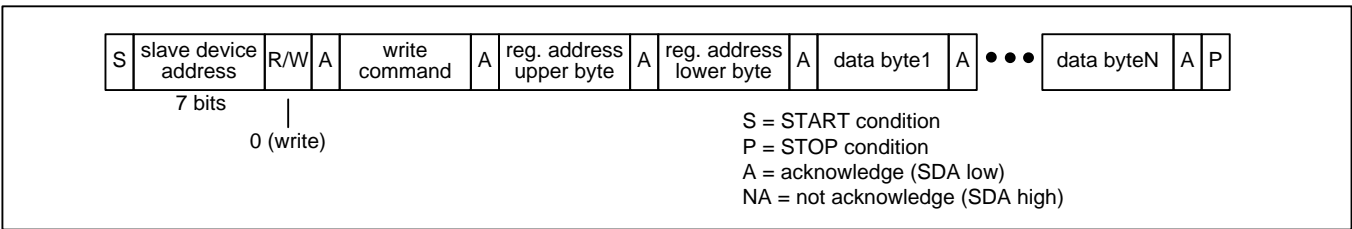

Figure 11 – I²C Register Write Transaction Functional Timing
Register Write Transactions. The device registers are accessible when **EESEL=0**. The bus master does an I²C write to the device. The first three bytes of this transaction are the SPI Write command (see Table 3), the upper byte of the register address, and the lower byte of the register address. Subsequent bytes are data bytes to be written. After each data byte is received, the device writes the byte to the write address and then increments the write address. The bus master terminates the write with a STOP condition (P). See Figure 11.